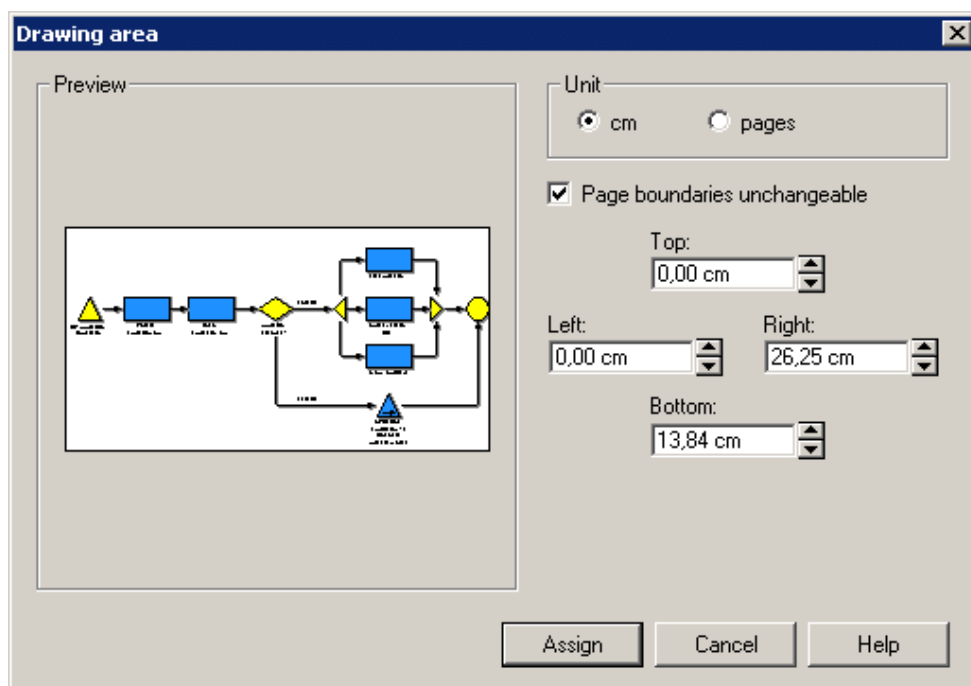

Figure 150: Drawing area
- **Drawing area...** to open the window "Drawing area" (see fig. 150, p. 179), in which you can increase or decrease the size of the drawing area (see chap. 2.2.9, p. 178).
Once this function is called, the window "Drawing area" (see fig. 150, p. 179), in which you can increase or decrease the size of the drawing area, is displayed.